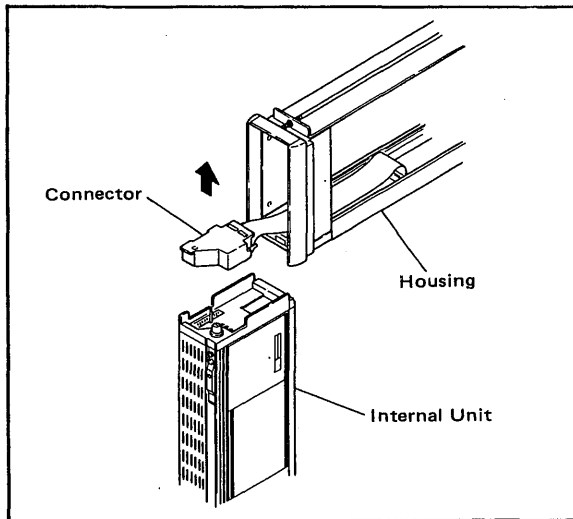

Figure 5-9. Disconnecting the Connector.
- (3) Remove the connector from the internal unit. This separates the internal unit from the housing. (See Figure 5-9).